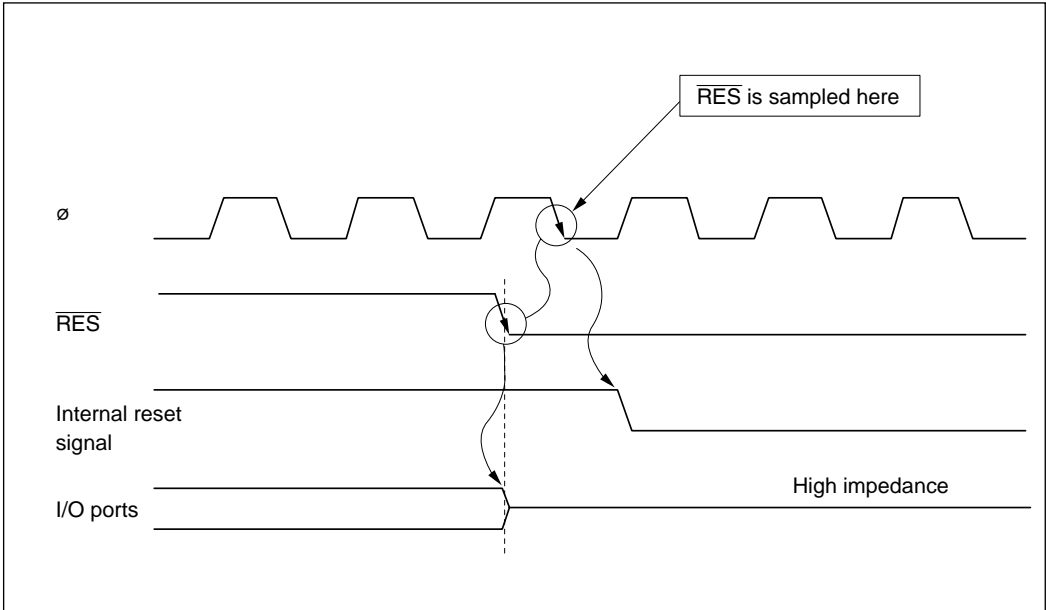

Figure G-5 Resetting of I/O Ports (Mode 7)
(5) **Mode 7:** Figure G-5 is a timing diagram for the case in which $\overline{\text{RES}}$ goes low in mode 7. As soon as $\overline{\text{RES}}$ goes low, all ports are initialized to the input state.